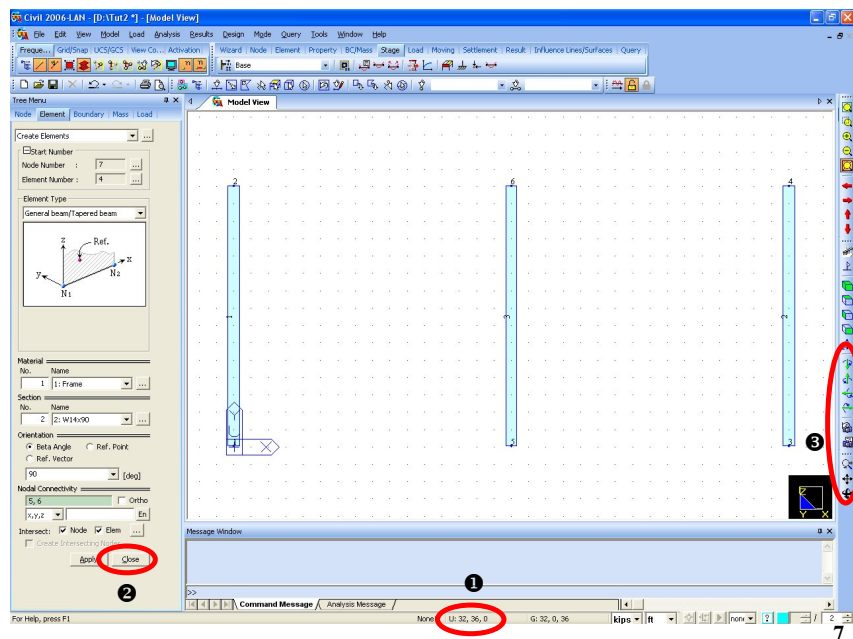

Figure 2.4 Generation of Column Elements
9. Generate elements **1 & 2** (exterior columns) by linking the positions **(0, 0, 0)** and **(0, 30, 0)** and positions **(64, 0, 0)** and **(64, 30, 0)** relative to the UCS coordinates noted at the bottom of the screen (Fig.2.4-①) with the mouse cursor. ②
12. Assign successively positions **(32, 0, 0)** and **(32, 30, 0)** relative to UCS to generate element **3**. ③
② While generating elements, if the window area is too small or the position is unsuitable, the user may adjust the window by using Zoom or Pan (Fig.2.4-②).
③ If the node numbering does not operate automatically, click the Nodal Connectivity field once and execute step 12.
First of all, click **Close** as shown in Fig.2.4 and switch to the Tree Menu. Then, execute **Geometry>Structure Wizard>Truss** to start modeling.
1. Click  as shown in Fig.2.4-②.